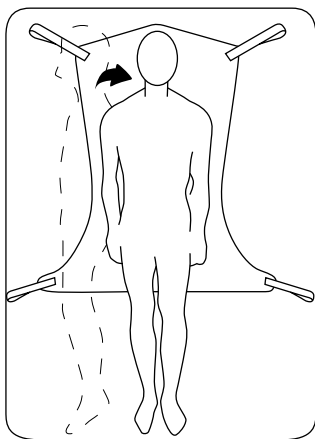

Figure 3
3. Roll the resident onto his/her back (*figure 3*).